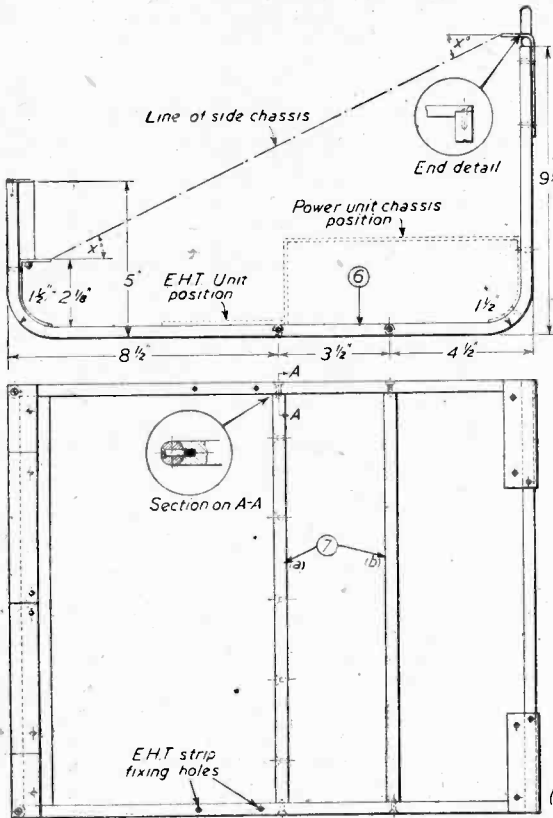
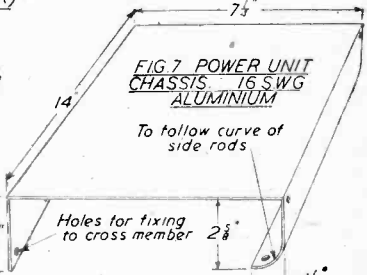

FIG 4 GENERAL FRAMEWORK ASSEMBLY. DETAILS OF THE VARIOUS ITEMS ARE GIVEN IN FIG 6
FIG 7 POWER UNIT CHASSIS - 16 SWG ALUMINIUM
ends as the inset of Fig. 4 shows, and then fitted in the positions indicated. It is essential that these members are of the same length. Both members are tapped 6 B.A. to a depth of about $\frac{1}{2}$ in., the side members being drilled to clear and countersunk. Every effort should be made to ensure that these drillings are central in all rods, and although this is difficult without a drill press or lathe, care with an ordinary hand brace will produce a good job. The framework when bolted together should stand reasonably square, but slight errors can be corrected later when the other chassis items are fitted.
The front control bracket (item 5) should next be bent as shown in detail in Fig. 6 (a), together with the two curved tube mask supports (items 4) shown at (b). These items are fitted to the framework as indicated in Fig. 4, the $\frac{3}{8}$ in. rods being drilled through 6 B.A. clear for the bolting of the control bracket, and tapped at the ends of the front upright sections 4 B.A. to a depth of about $\frac{1}{2}$ in., for the fixing of the tube supports. These latter curved pieces are also bolted (with countersunk 6 B.A. bolts) to item 5 at the centre butt joint.
The power unit chassis should now be prepared to the details given in Fig. 7, and then drilled and fitted as indicated in Fig. 4. The curved side of the chassis
The rear cross member (item 1) is now prepared. This is made from a 16in. length of $\frac{1}{2}$ in. diameter aluminium or dural rod, and is bent at the mid-point as shown. Again, the exact size of the bend is not critical, it being made merely to clear the tube base-holder when this is fitted. The ends of this rod are then cut to the correct width of 14in., and filed to sit on the top of the two main uprights. Fixing is accomplished with 6 B.A. countersunk screws tapping into the latter rods, as the detail inset of Fig. 4 shows.
the bottom edge of this bracket as possible to avoid fouling the timebase components when finally assembled. Fixing to the rear uprights and the cross member is as indicated in Fig. 4.
Angle x to fit to similar angle shown in side view fig 4
Figs. 4 to 8.—Chassis cutting, bending and assembly details.